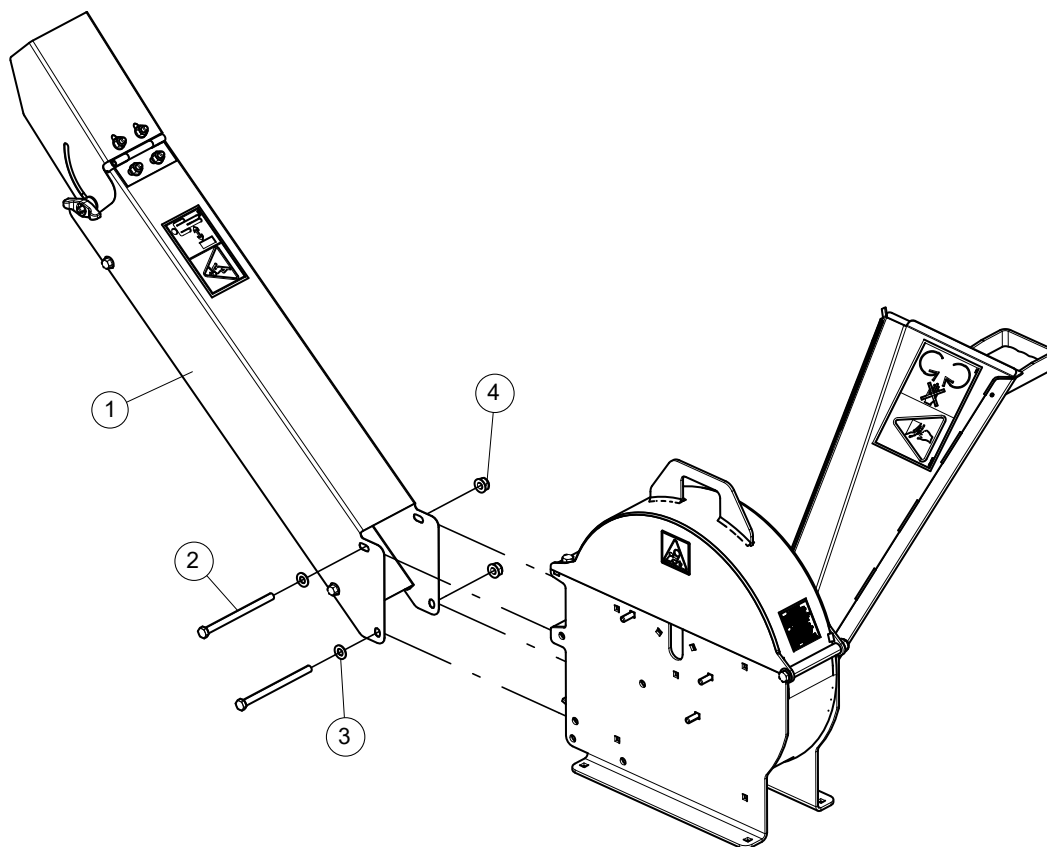

Figure 2.2.3, Attach Discharge Chute
2. Position the discharge chute (1) and attach using two 3/8 x 5 1/2 bolts (2), washer (3) and nylock flange nuts (4). (see Figure 2.2.3).